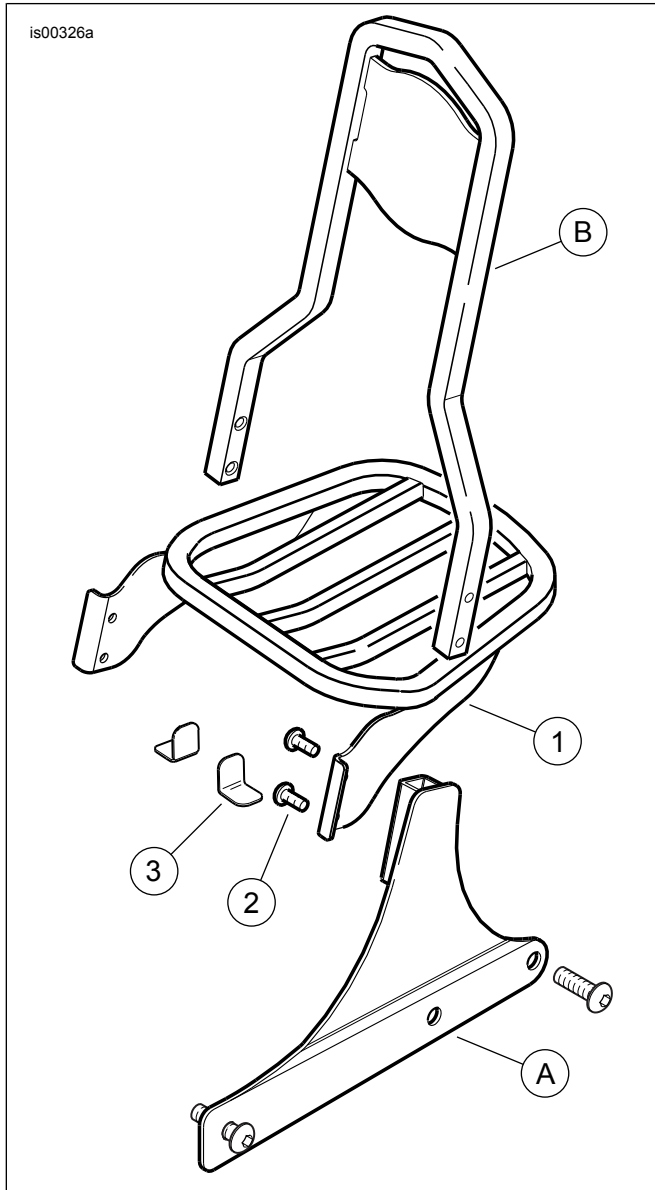

Figure 1. Service Parts, Sport Luggage Racks
See Figure 1 and Table 2.
- See Figure 1. **Loosen** front two 3/8-16 TORX screws that attach rigid mount sideplates (A).
- Raise sissy bar/sideplate assembly to gain access to screws (2) that attach sissy bar (B) to sideplates.